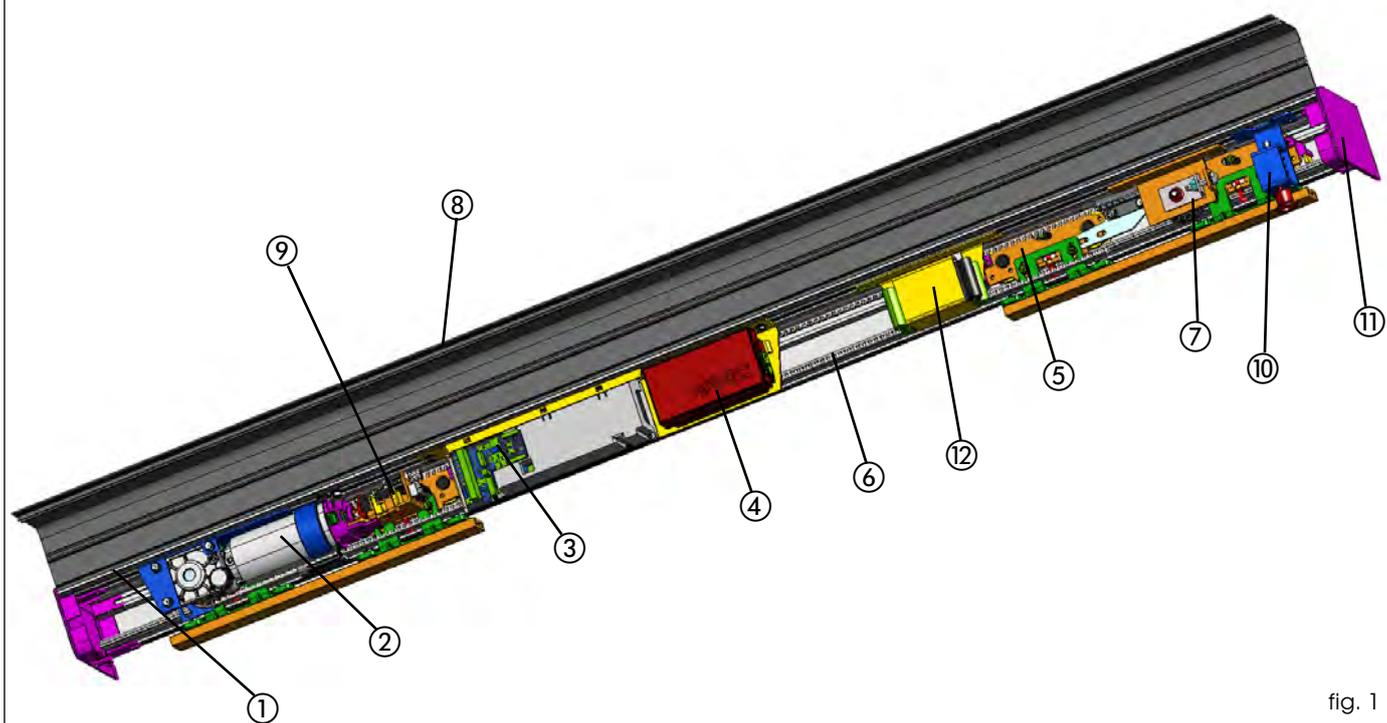

fig. 1
An automation cross beam (fig.1) consists of the following parts:
#### Support profile (fig.1 ref.①)
#### Motor unit (fig. 1 ref.②)
##### Control unit (fig. 1 ref. ③)
##### Power feed unit (fig. 1 ref. ④)
##### Leaf support carriages (fig.1 ref.⑤)
##### Drive belt (fig. 1 ref. ⑥)
##### Transmission pulley unit (fig. 1 ref. ⑦)
#### Closing housings (fig. 1 ref. ⑧)
This is the aluminium profile enabling closure of the automated system. The side panels (fig.1 ref.⑩) completely close the system.
#### Motor lock unit (fig. 1 ref. ⑨)
The motor lock unit is supplied with the internal release device (Fig.1 ref.⑩) used for emergency opening if needed. It is also designed for installation of the external release (optional) if required. The motor lock unit acts directly on the motor, locking it mechanically.
#### Emergency battery (fig. 1 ref. ⑫)